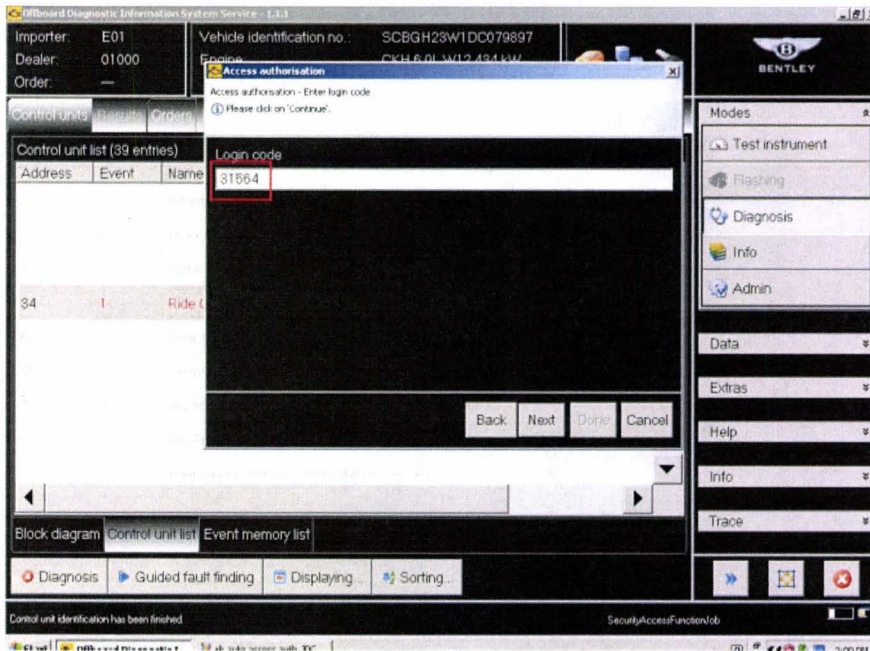

Figure 8
5. Enter Login code 31564 then *Next* (see Figure 8)